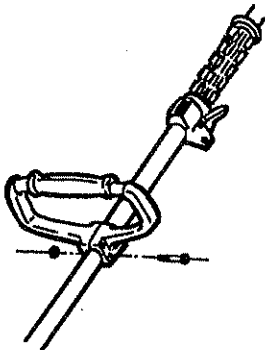

Figure 3
5. After the loop handle is in place, tighten the four bolts. Figure 3. BE SURE THE BOLTS ARE TIGHT, BUT DO NOT OVERTIGHTEN.